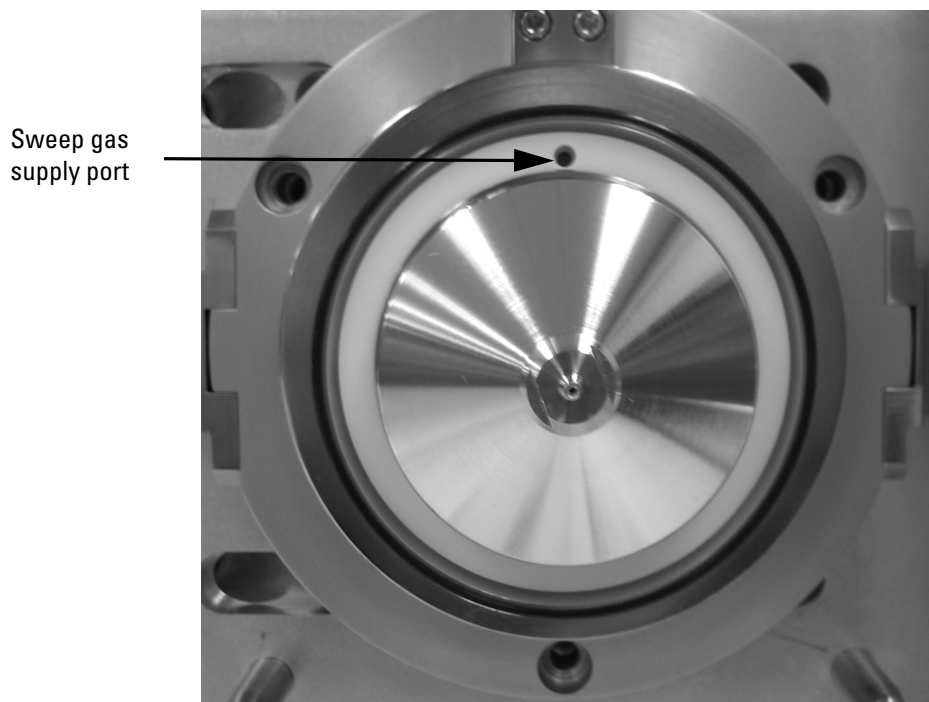
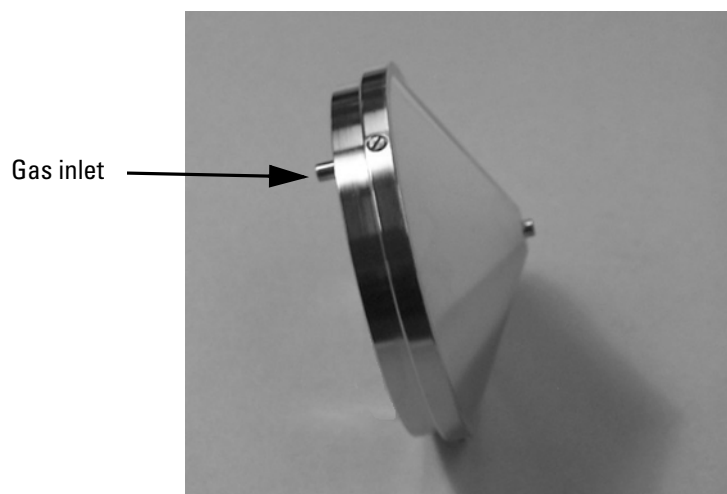

Figure 73. Ion source interface, showing the sweep gas supply port in the API cone seal
Figure 74. Ion sweep cone, showing the gas inlet
1. Align the gas inlet on the ion sweep cone with the sweep gas supply port on the ion source mount. Firmly press the ion sweep cone into ion source moun, as Figure 73 and Figure 74 show.